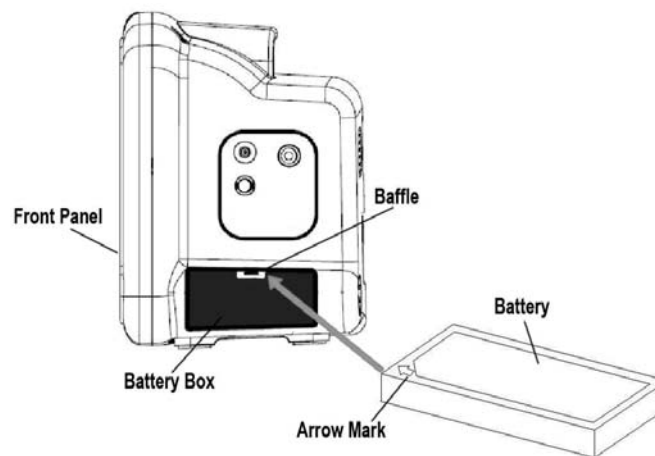

Fig. 4-1
(1) Open the battery cover with nail.
(2) Keep the battery side with the arrow mark upward and poke the baffle from one side with the battery coner near to the arrow mark (refer to the direction indicated by the arrow line in Fig.4-1), then plug the battery into the battery box until the baffle return to original position.
(3) Close the battery cover.